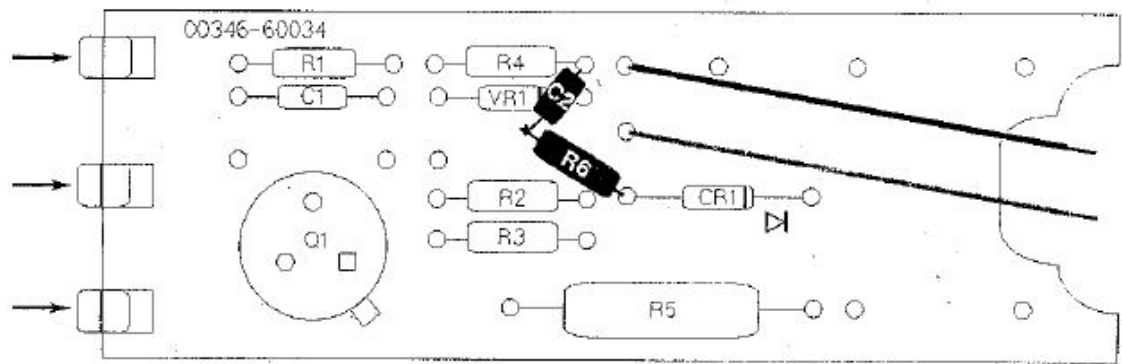

Figure 1 00346-60034
For the 346C, bias levels are determined by installing the appropriate resistor value for R2 and R3 on the printed circuit board (Figure 1). The appropriate resistors are supplied with the replacement part.
- 8 Check the resistors installed in positions R2 and R3 on the 00346-60034 printed circuit board; refer to Figure 1. Both resistors should be the same value. If the resistors installed match the resistors supplied, it is not necessary to replace them in the printed circuit board.
- 9 If necessary, install the supplied resistors in R2 and R3 position (refer to Figure 1).
- 7 Check the resistors installed in positions R2 and R3 on the 00346-60034 printed circuit board; please refer to Figure 1. Both resistors should be the same value. If the resistors installed match the resistors supplied, it is not necessary to replace them in the printed circuit board.
- 8 If necessary, install the supplied resistors in the R2 and R3 positions (refer to Figure 1).